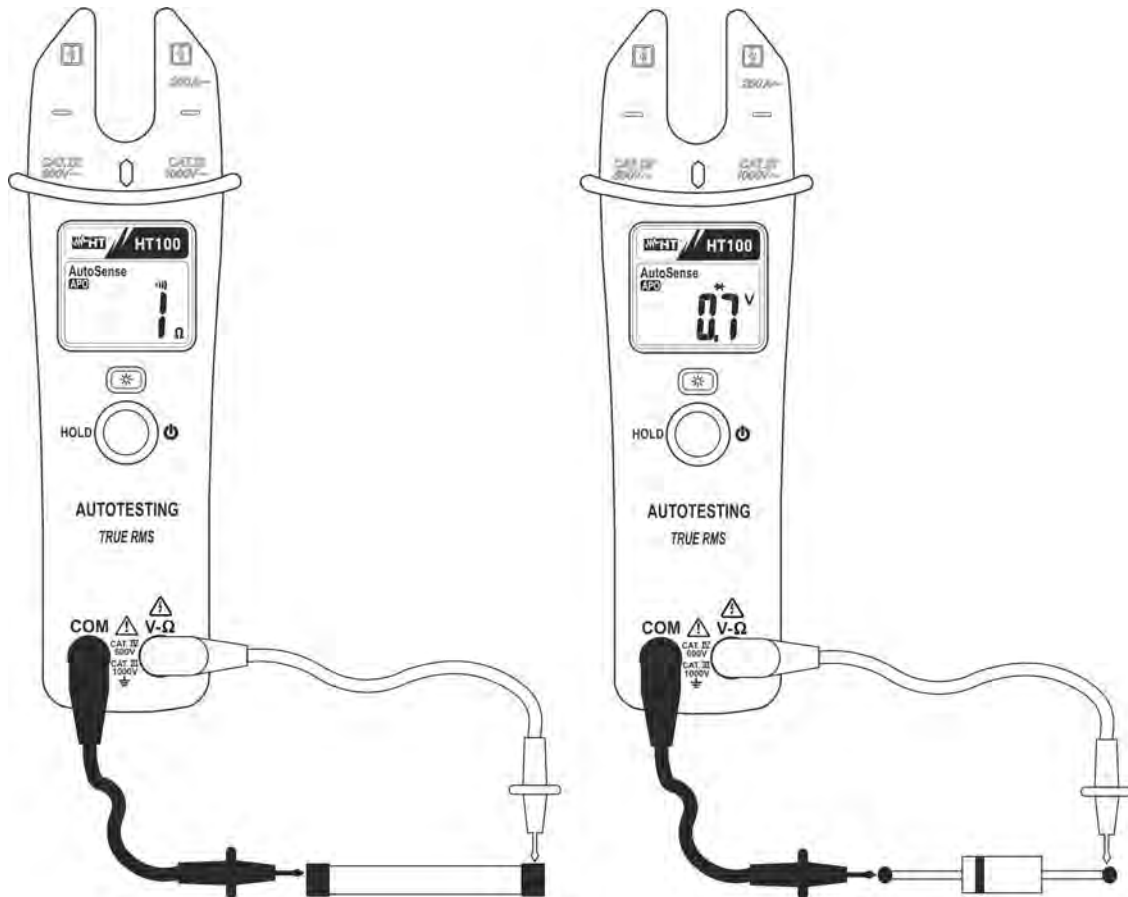

Fig. 6: Taking continuity test and diode test
1. Insert the red test lead plug into **V-Ω** jack and the black test lead plug into **COM** jack and perform continuity test on the object on test (see Fig. 6 – left side). The “•••” is shown at display. Buzzer emits sound if the measured resistance value is less about 25Ω
3. Connect the red test leads to the anode of diode on test and the black test lead on the cathode ones (see Fig. 6 – right side). The “→|” symbol is shown at display. The correspondent threshold voltage of P-N junction is showed on display